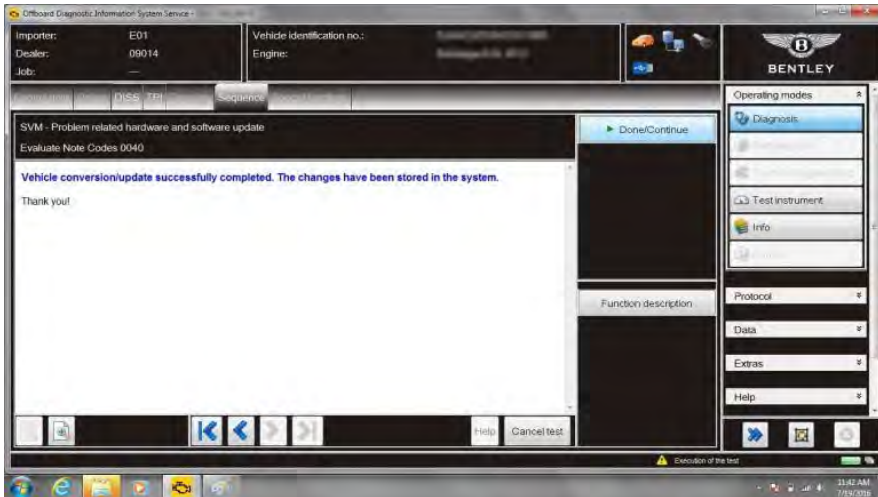

Figure 6
31. Select **Done/Continue** at successfully complete to finalise the update - Figure 6.